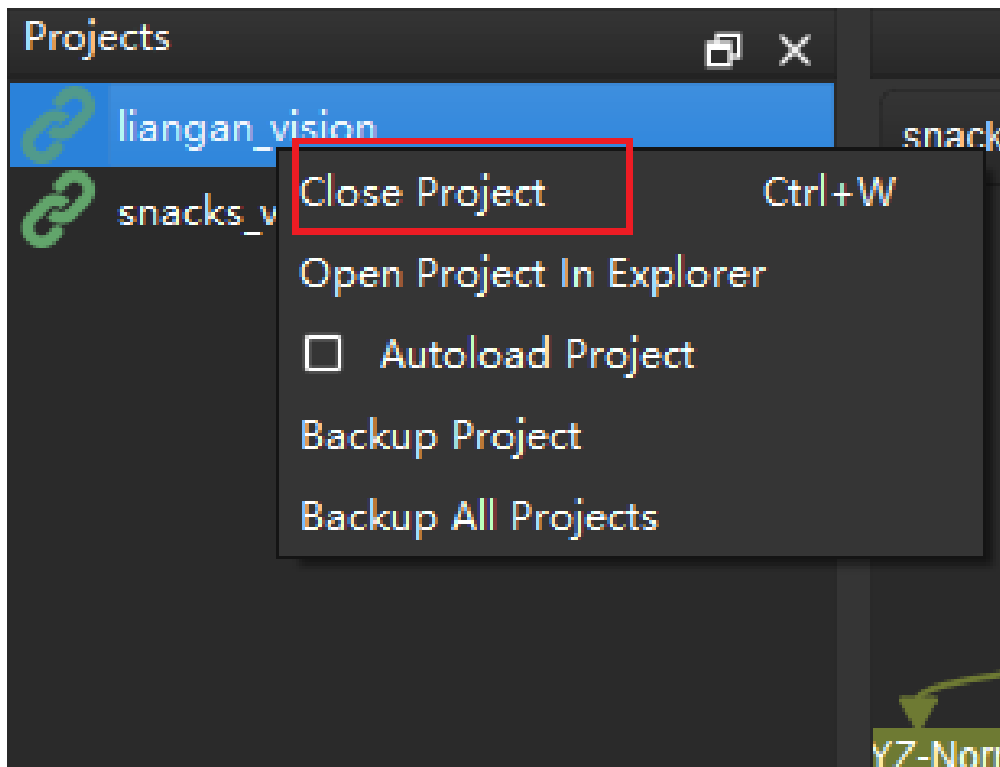
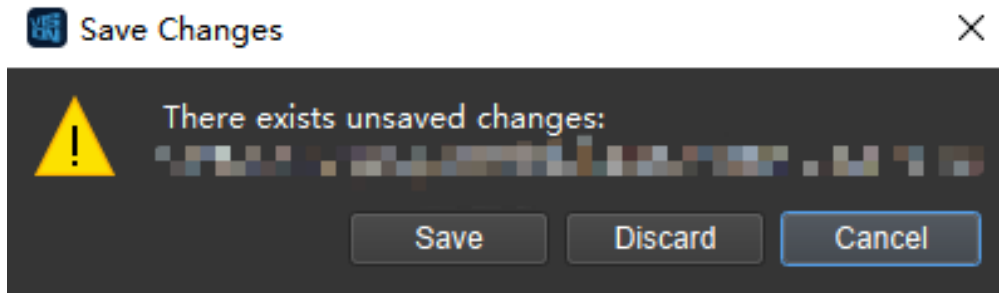

Figure 8. Close a project in the Projects panel
Figure 9. Alert to save the project before closing
2. Completely exiting a project from Mech-Vision: Right-click on the project name in the Projects panel, and then click on *Close Project*, as shown in *Figure 8*. If there are unsaved contents in the project, a warning window as shown in *Figure 9* will pop up. Please select *Save*, *Discard*, or *Cancel* according to actual needs.